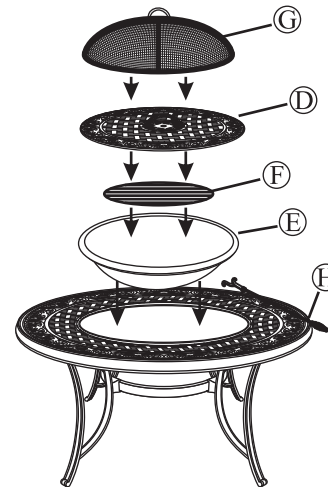

Figure 6
Step 6: With the help of another person, turn the table in the upright position. Careful place the fire bowl inside the center table rim. Place steel grate and aluminum cast cover in the steel fire pit as shown in *Figure 6*.